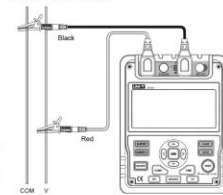

Figure 4. Voltage Measurement
- To measure voltage, set up the Meter as Figure 4 and do the following: